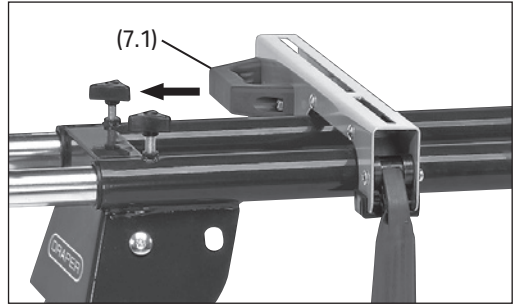

Fig. 9
- Ensure that you fit the brackets to the saw the correct way round, so that the carry handles (7.1) are facing outwards (Refer to Fig.9).
7. Thread the mitre saw mounting bolt (8) through the slot in the underside of the mounting bracket (7) and up through into the mounting hole of the mitre saw.
8. Slide a mitre saw mounting washer (10) over the bolt, followed by a locking washer (11) and then a mitre saw mounting nut (9).
- Secure in place by activating the locking levers (6).